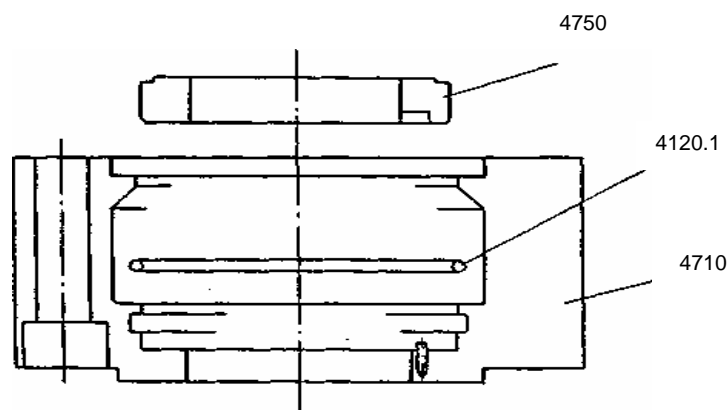

Fig. 8
- (1) Insert O-ring (4120.3) in Fig. 8 in the seal cover after thin oil coating (turbine oil or machine oil) was applied thereto. Then, apply same oil coating to the peripheral surface of the seat and insert it in the seal cover, with its lapped surface upside. At this time, pay special attention to the positions of the notch for seat locking and lock pin (5600). After insertion, check for inclination of the seat.